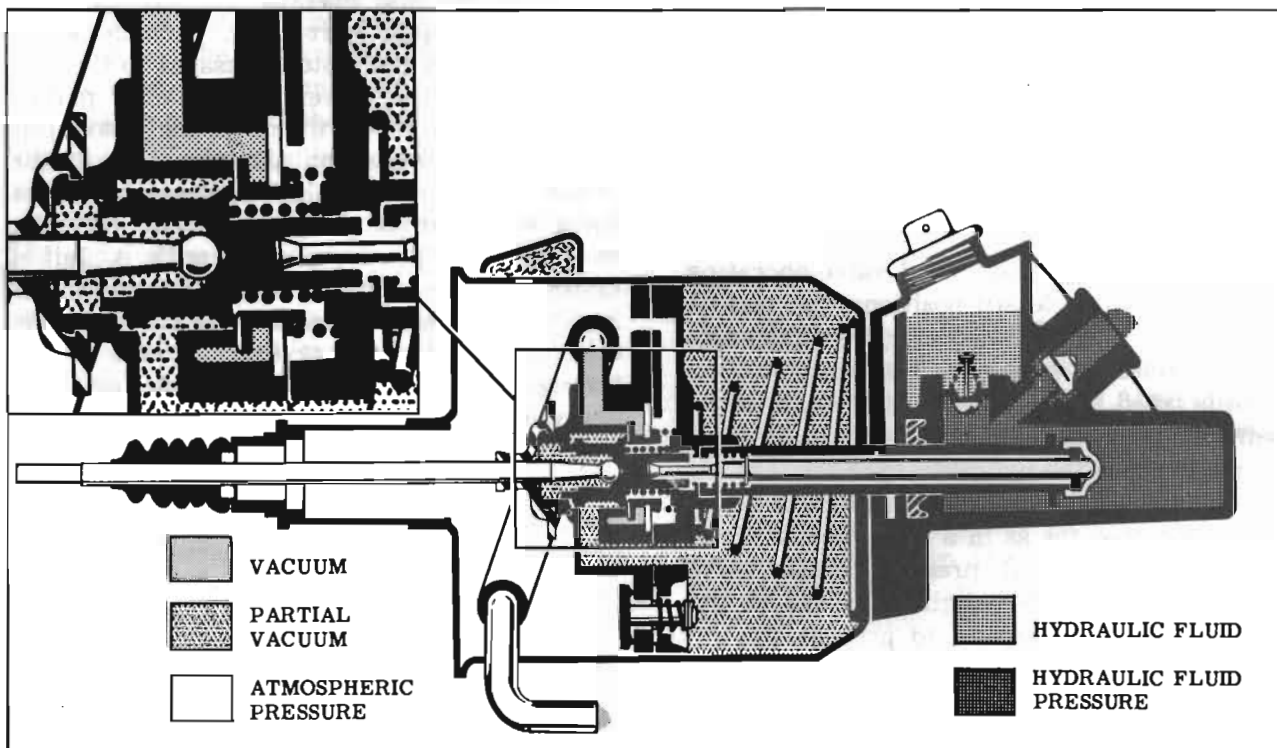

Figure 9-32—Holding
(4) *Holding.* See figure 9-32. When the force applied by the driver remains constant, the valve is allowed to remain in its holding position. In the holding position both the vacu-